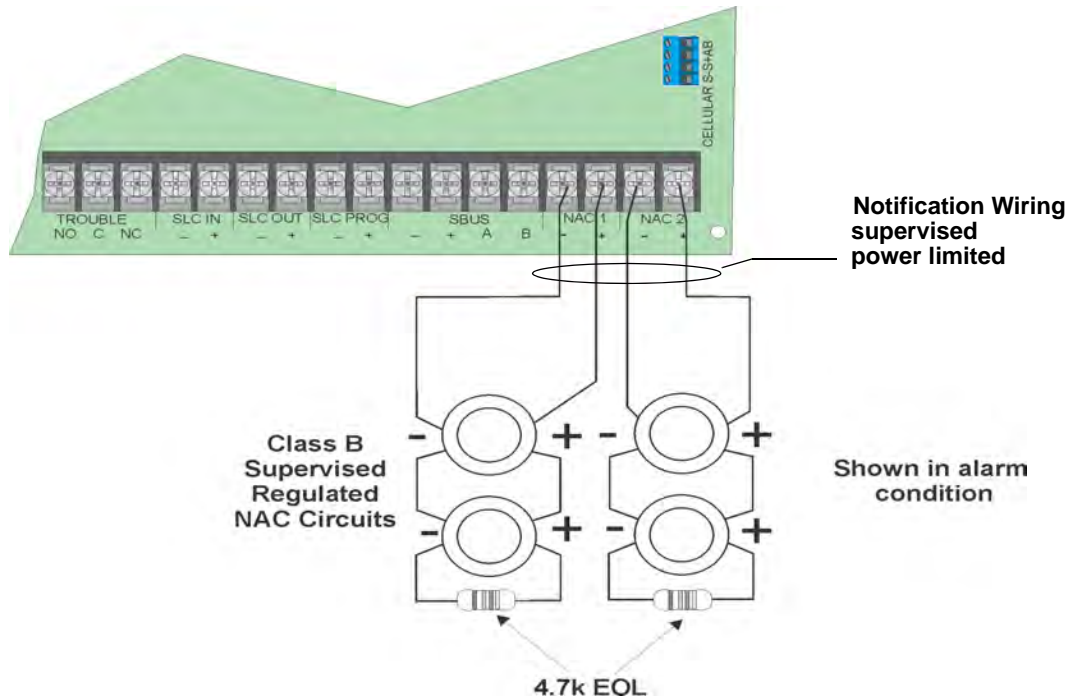

Figure 4.34 Class B Notification Appliance Circuit Wiring
1. Wire Class B Notification appliances as shown in Figure 4.34.